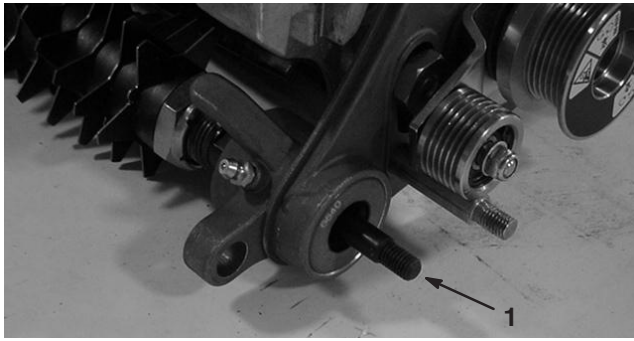

Figure 7
10. Apply grease to seal in drive assembly bearing support and to end of groomer shaft (Fig. 7).
11. Slide one end of groomer shaft into drive assembly bearing support (Fig. 7).